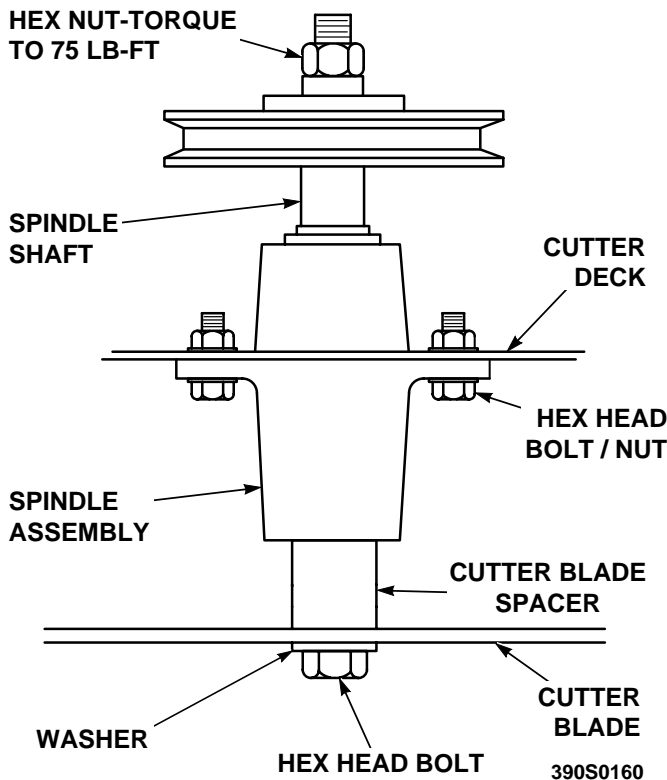

Figure 7-9 Blade Replacement
- Secure the cutter blades to prevent them from rotating, (Use the optional Blade Buddy tool, P/N 9212, to assist in securing the cutter blades), remove the nut from the blade attaching bolt. Remove the cutter blade, bolt and spacer from the spindle shaft. (Figure 7-9).
- Install the hex nut to the blade bolt at the top of the cutter spindle. Secure the blades from rotating and torque to 75 ft-lbs. (See Figure 7-9).